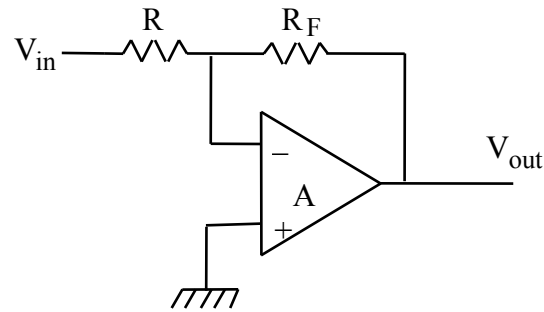

Figure 4.3 Inverting Amplifier
The basic inverting configuration is shown in Figure 4.3. Since the positive input is grounded, the op-amp will do everything it can to keep the negative input at ground as well. In the limit of infinite open loop gain the inverting input of the op-amp is a virtual ground, a circuit node that will stay at ground as long as the circuit is working, even though it is not directly connected to ground. Since the op-amp inputs draw no current, it follows that
4. (2 points) Design an inverting amplifier (Fig. 4.3) with a closed-loop gain somewhere between 10 and 100. Select appropriate values for R and R_F . Choose R_F large enough so that the maximum output current of the op-amp is not exceeded when the output is near the saturation voltage. Predict the bandwidth and the input impedance at the signal input. How would you measure the input impedance in the lab? [The DMM is not going to properly read the input or output impedance when connected to a circuit because of all the other resistors and bias voltages present. Here is a hint: Recall that when the signal generator with a 50Ω output impedance has a 50Ω load the signal into the load drops by a factor of two.]